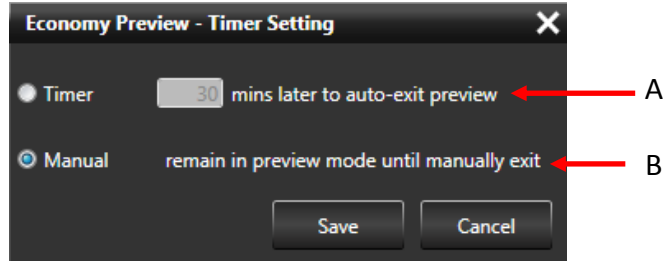

Figure 7 Timer Setting
Before start the preview live transmission, you may need set the countdown timer (Figure 7) to exit the preview mode. To automatically exit the preview mode, select the "Timer" option (A), you can set the time between 1 to 1440 minutes. Also, you can manually exit the preview at any time (B).